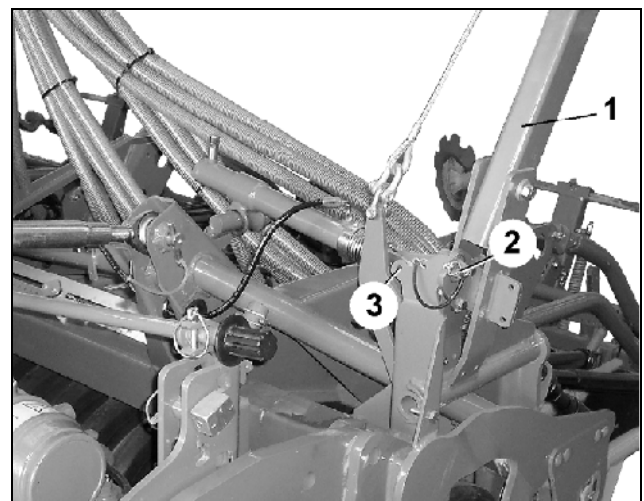

Fig. 111
- hold track marker arm (Fig. 111/1) and remove the clip pin (Fig. 111/2) (necessary for transport)
- when not needed, insert the clip pin into one of the holes of the link (Fig. 111/3)
**After removal of the clip pin (Fig. 111/2) the marker arm is tilting slightly to the side.**